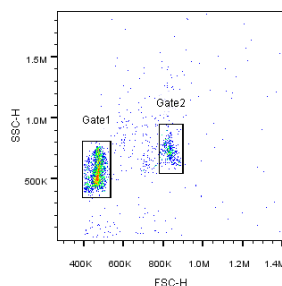

Figure 1
- Run setup beads. Adjust FSC and SSC gates to ensure the bead populations are on scale. Create gate for two different size bead populations (Figure 1).